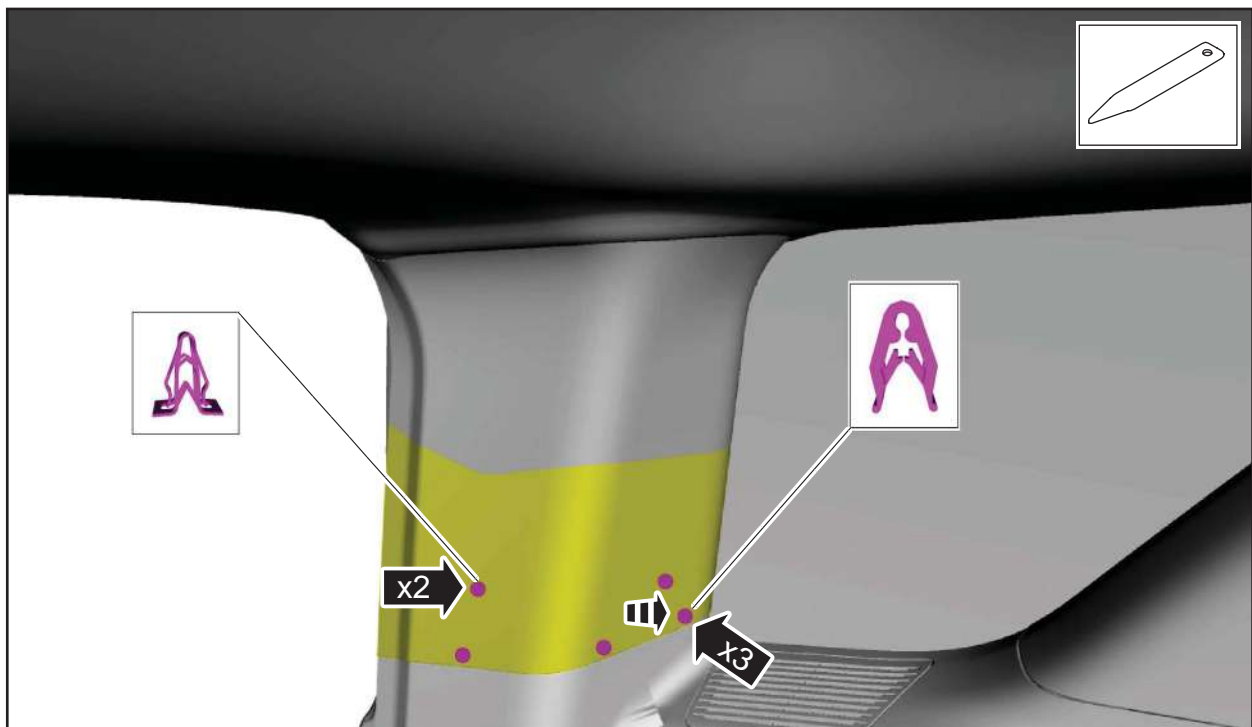

FIGURE 12
12. Release the LH D-pillar trim panel lower clips. See Figure 12.